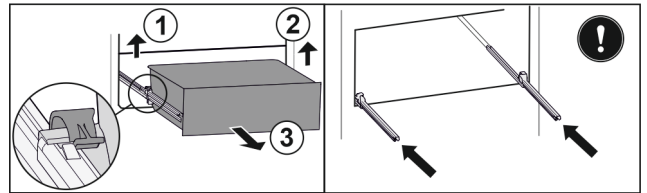

Fig. 41
- ▶ Lift left clamp and simultaneously pull drawer forwards on the left. Fig. 41 (1)
- ▶ Lift right clamp and simultaneously pull drawer forwards on the right. Fig. 41 (2)
- ▶ Remove drawer to the front. Fig. 41 (3)